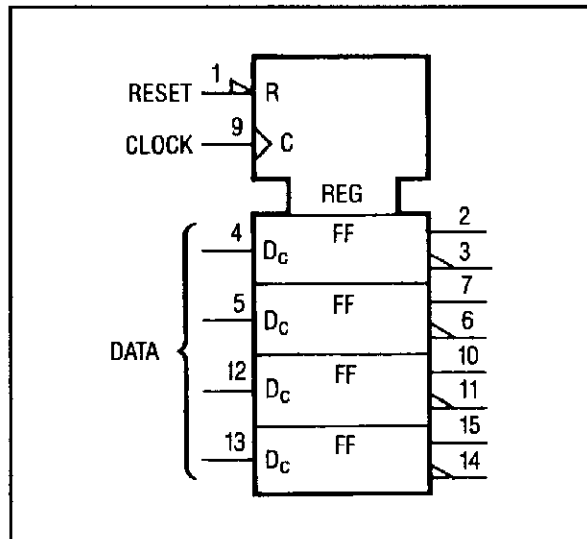

Figure 8-12. Quad D-Type Latch (Combined)
**UP-DOWN Counter.** The counter control block shows common inputs to a Presettable Decade UP-DOWN Counter (see figure 8-12). Notice that “+*m*” means count up (increment the count) by “*m*”; “-*m*” means count down by “*m*”. Note: if *m*=1, then “*m*” may be omitted. Since the D-type flip-flops are master-slave, the output delay indicator is used. The “=9, +1” and “=0, -1” notation defines when the carry and borrow outputs are generated. They also define it as a decade counter; a binary counter would have the carry indicated with “=15, +1”. Flip-flop weighting is indicated in parentheses. Input “C1” allows all four “D1” flip-flops to be preset in parallel.